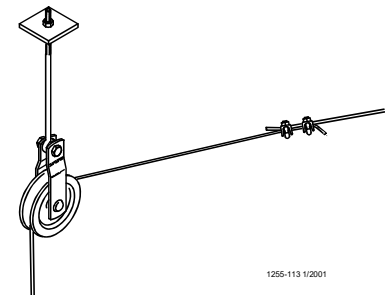
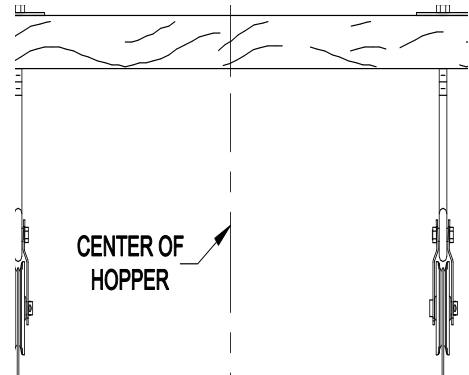

Figure 8. Steel Hopper Suspension
Figure 9. Plastic Hopper Suspension
•Feed Hopper Locations: **When steel hoppers with center suspension are used, see figure 8, the feeder line must be supported within 1' [30 cm] of the feed hopper. When plastic hoppers are installed only 2 point suspension can be used, see figure 9, this does not require additional supports. See page 14 for plastic hopper suspension.** This is in addition to the required Feeder Hopper suspension. After determining the type of suspension system required, decide where the Feeder Line is to be installed. Mark a straight line on the ceiling or rafters the full length of the Feeder Line. Use a string, chalk line, or the winch cable, temporarily attached with staples, to mark the line. Center the line directly over where the Feeder Line is to be installed.